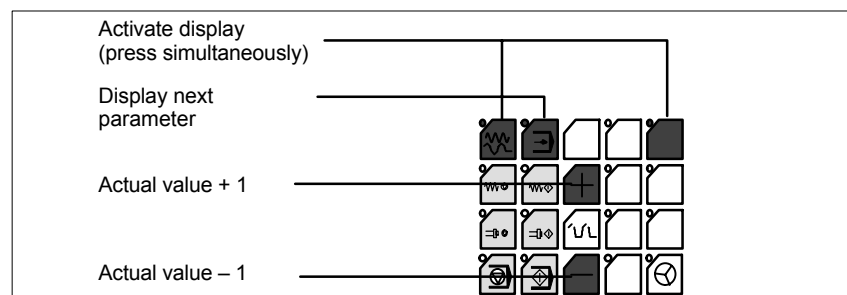

Fig. 9-11 Displaying and modifying GD circle parameters
The current values of the GD circle parameters of the HHU can be set and/or checked on the HHU display (see Fig. 9-11, Page 9-248).
While the message “Waiting for PLC” is displayed on the HHU display, the uppermost right and left keys must be pressed simultaneously (see Fig. 9-11). Then the first GD circle parameter is displayed.
The value of a GD circle parameter can be modified within its admissible range of values using the + or – keys (see Fig. 9-11).
Press the 2nd key from the left in the uppermost key row (see Fig. 9-11) to advance to the next parameter. After the last GD circle parameter has been reached, the set values will be automatically saved in the Flash-EEPROM of the HHU.
5. Setting the HHU GD circle parameters (see: Fig. 9-11, Page 9-248) according to the values of the default configuration.